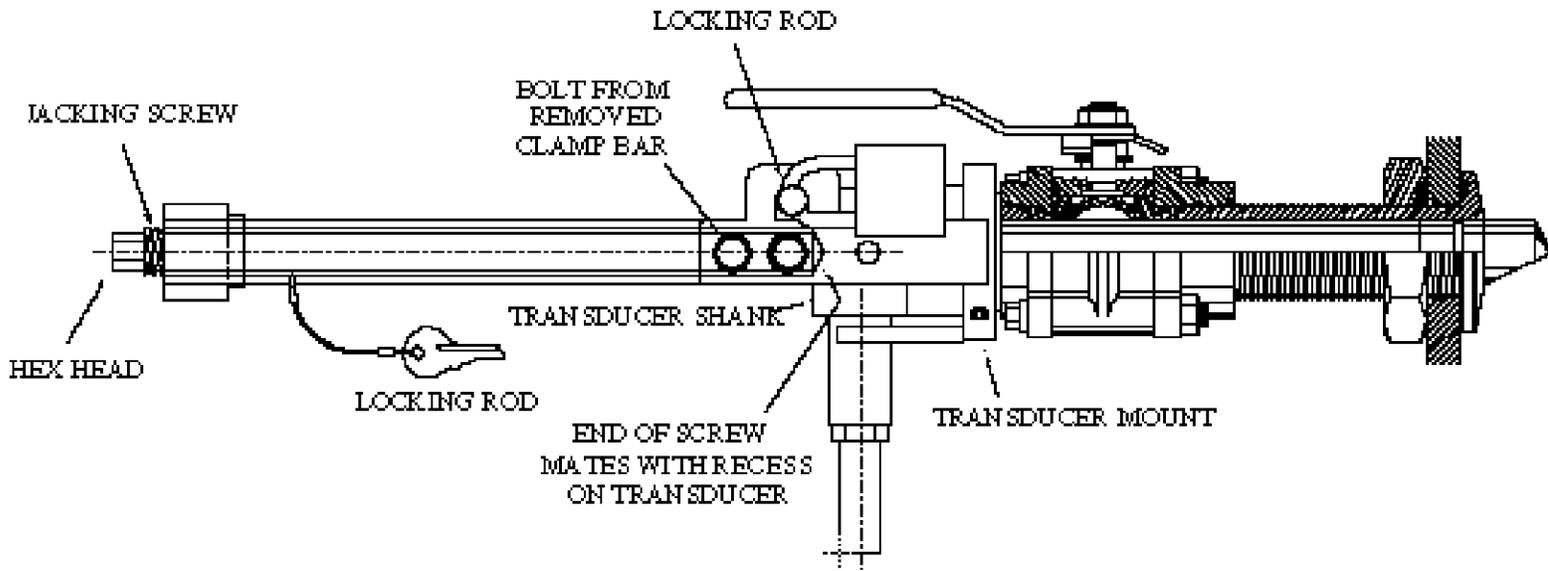

Figure 10-4 7600 Transducer Assembly with Extraction Tool Installed
7. Bolt the jacking tool to the transducer mount using the clamp bar mounting holes as shown in Figure 10-4 on page B-18. Tighten all four bolts.